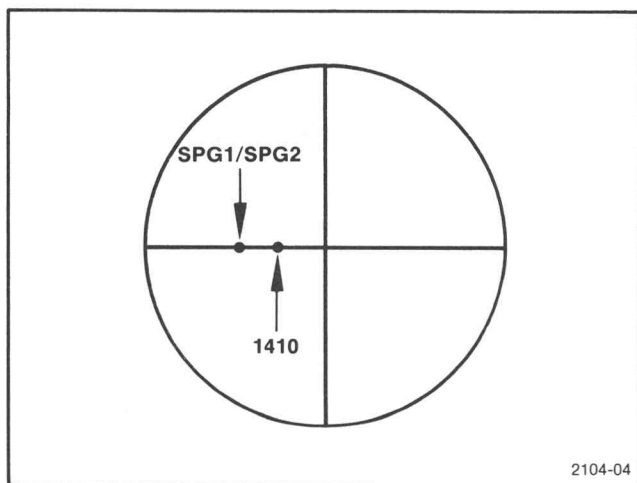

Fig. 4-4. Subcarrier phase adjustment illustration.
a. Connect the 1410 Mainframe Subcarrier output to the vectorscope CW Ext ϕ Ref input. Connect the other Ext ϕ Ref input to CH B through the 10X attenuator pad. Connect the SPG1 or SPG2 BLACK BURST signal output to CH A. Display CH A and CH B. See Fig. 4-4.